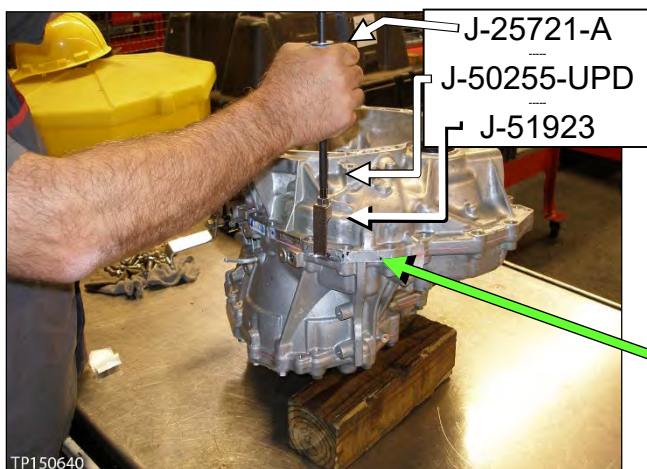
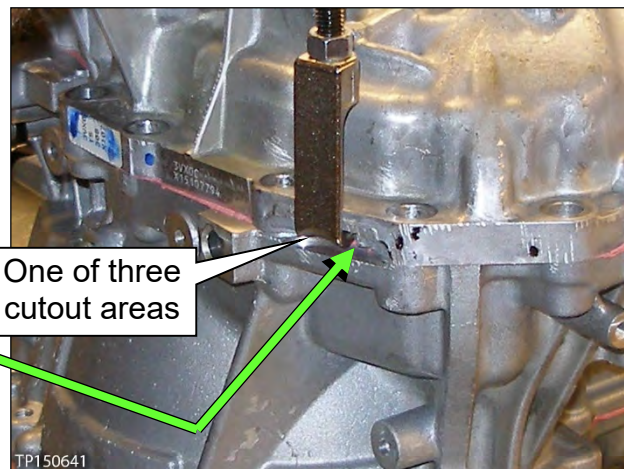

Figure 30
Figure 31
- Use Slide Hammer J-25721-A and Slide Hammer Bolt J-50255-UPD with J-Hook J-51923 at the cut out areas similar to the one shown in Figure 30 and Figure 31.